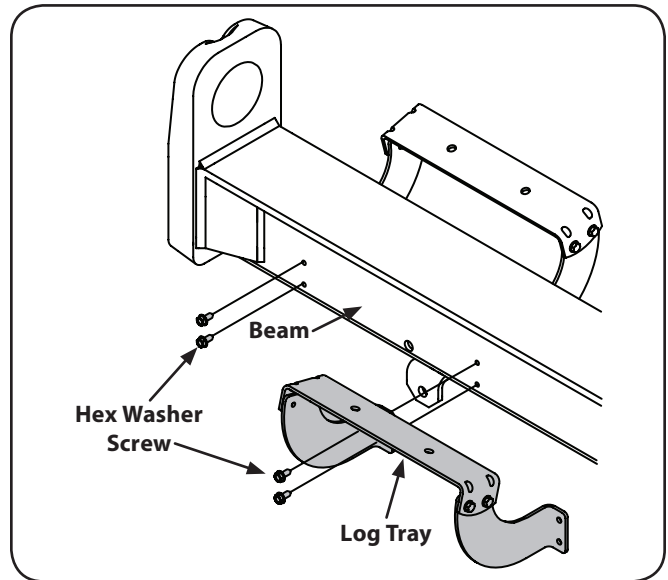

Figure 3-5
- Disconnect the log tray from the beam on the side of the control valve by removing the two hex washer screws that secure it to the beam and the two hex washer screws in the beam. See Figure 3-5.